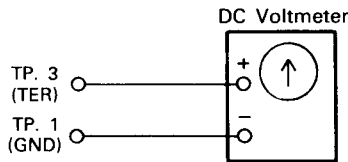

Fig. 35
- 2) While in the "Stop" mode, connect the DC voltmeter to TP. 3 (TER) and TP.1 (GND). (Fig. 35).